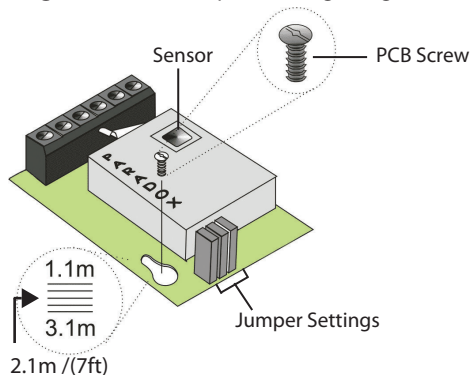

Figure 2
- 2) Loosen the PCB screw and remove the PCB (Figure 2 (3)).
- 4) Replace the PCB and verify that the height settings match the actual installation height (Figure 2).
## Detector Settings (Figure 2)